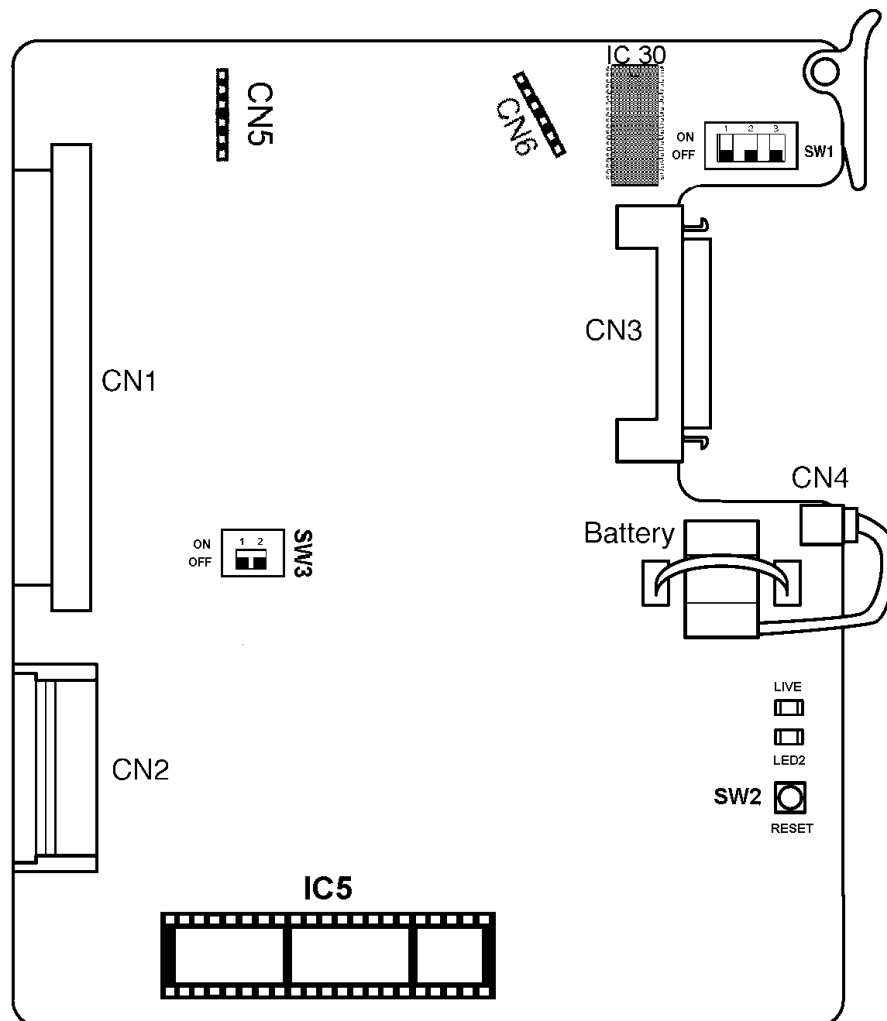

Figure 2-2: CPUI()-U() ETU Switch Settings
Each system must have one CPUI()-U() ETU in the CPU/EXP slot of the basic B64-U23 KSU. Refer to *Figure 2-2: CPUI()-U() ETU Switch Settings*.
1. Remove the battery cable from CPUI()-U() ETU CN4. Refer to *Figure 2-2: CPUI()-U() ETU Switch Settings*.